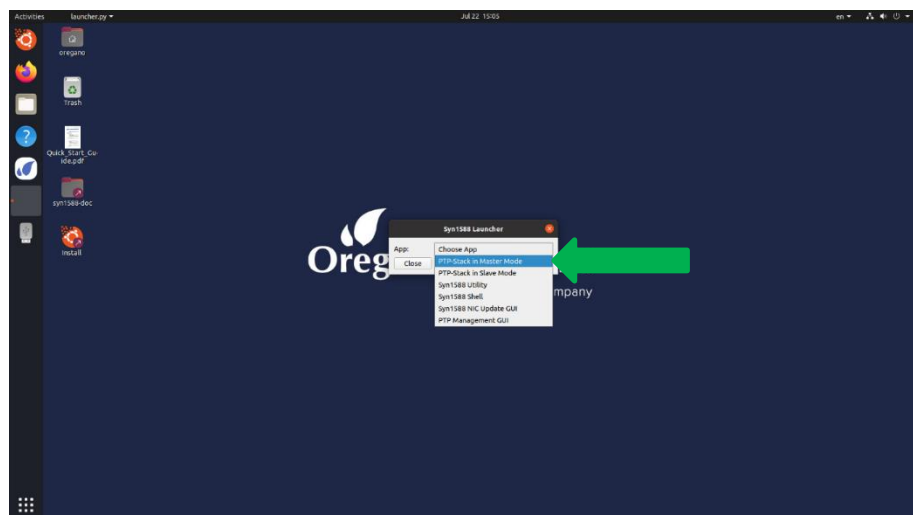

Figure 5 Select to run "PTP-Stack in Master Mode"
2. Select "PTP-Stack in Master Mode" in the drop-down menu (Figure 5)